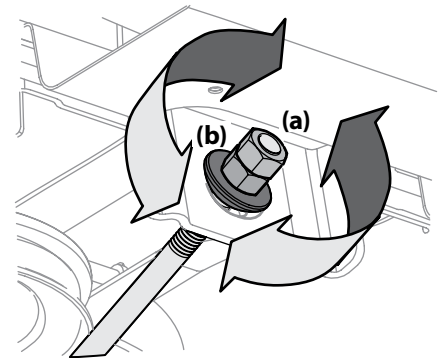

Figure 4-8
- To raise the front of the deck, remove the end cap, loosen the outer nut (a) then tighten (thread inward) the inner nut (b) against the front hanger bracket. See Figure 4-8. When proper adjustment is achieved, re-tighten the outer nut (a) and replace the end cap.
- To lower the front of the deck, remove the end cap, loosen the outer nut (a) then loosen (thread outward) the inner nut (b), away from the front hanger bracket. See Figure 4-8. When proper adjustment is achieved, re-tighten the outer nut (a) and replace the end cap.